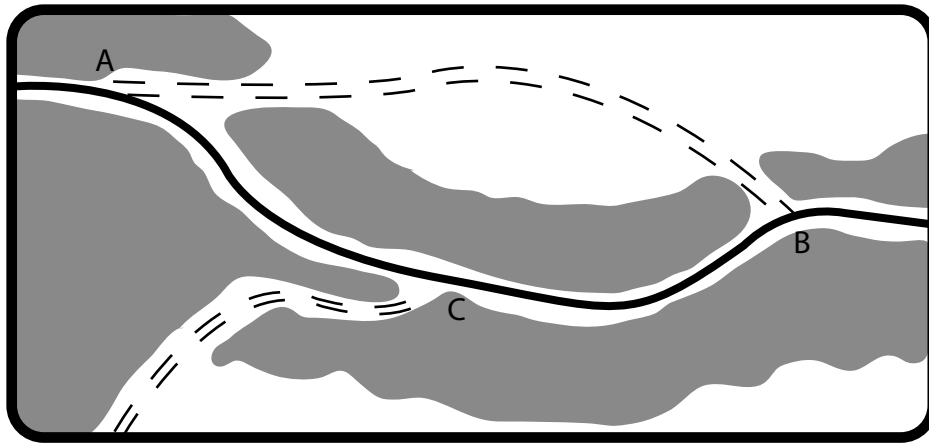

Figure 7. Logging Road Entrances
- Logging road entrances to public roads can be built in ways to shield the harvest activity from public view. The exit approach can run at an angle until the last few feet where the road turns to exit straight for the big trucks (*Figure 7*).